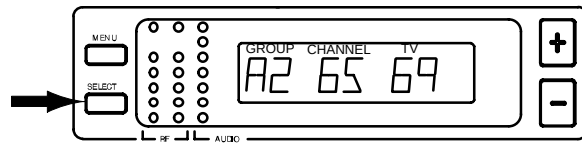

FIGURE 13
4. Press the "SELECT" button to choose Group or Channel. The current Group, Channel, and TV channel setting will appear, as shown in Figure 13. (Models sold outside the U.S. and Canada may not display TV channel.)